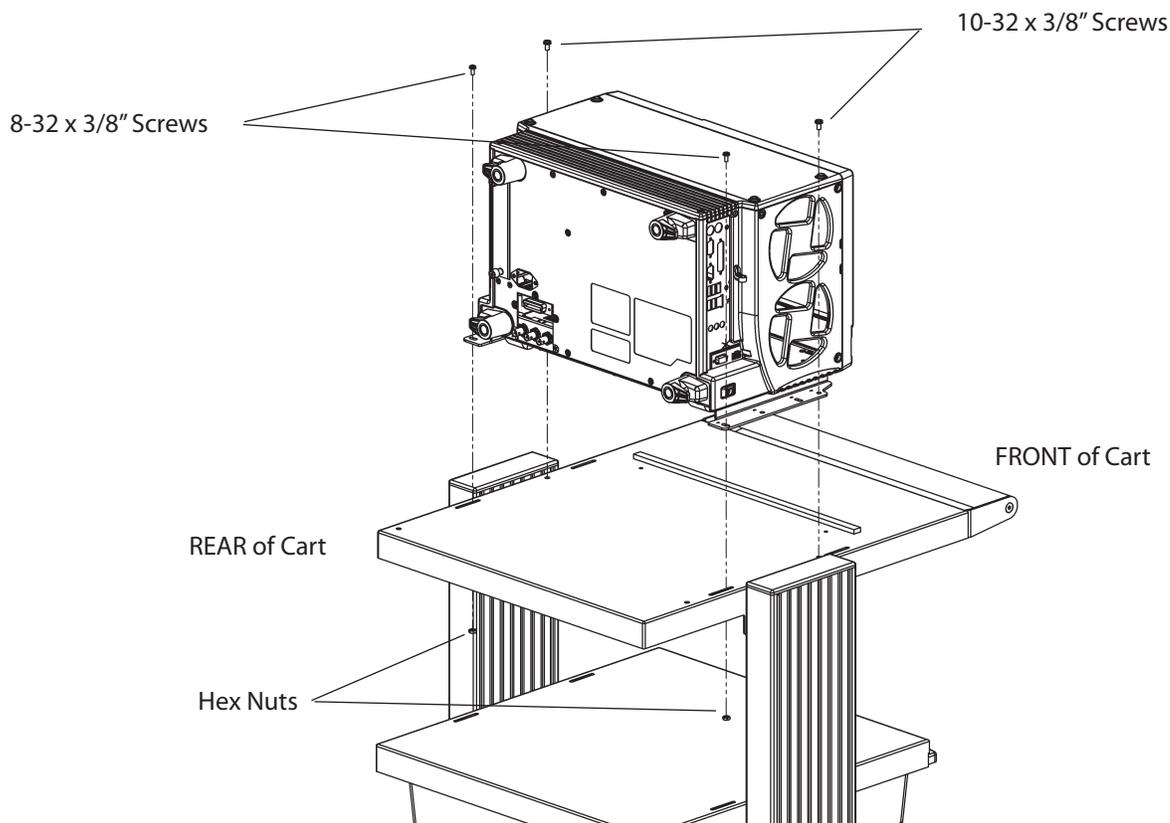

Figure 6: Aligning Instrument With Cart, Shown On K420 Cart
1. Place device, with mounting brackets installed, onto cart in orientation shown in Figure 6 below.